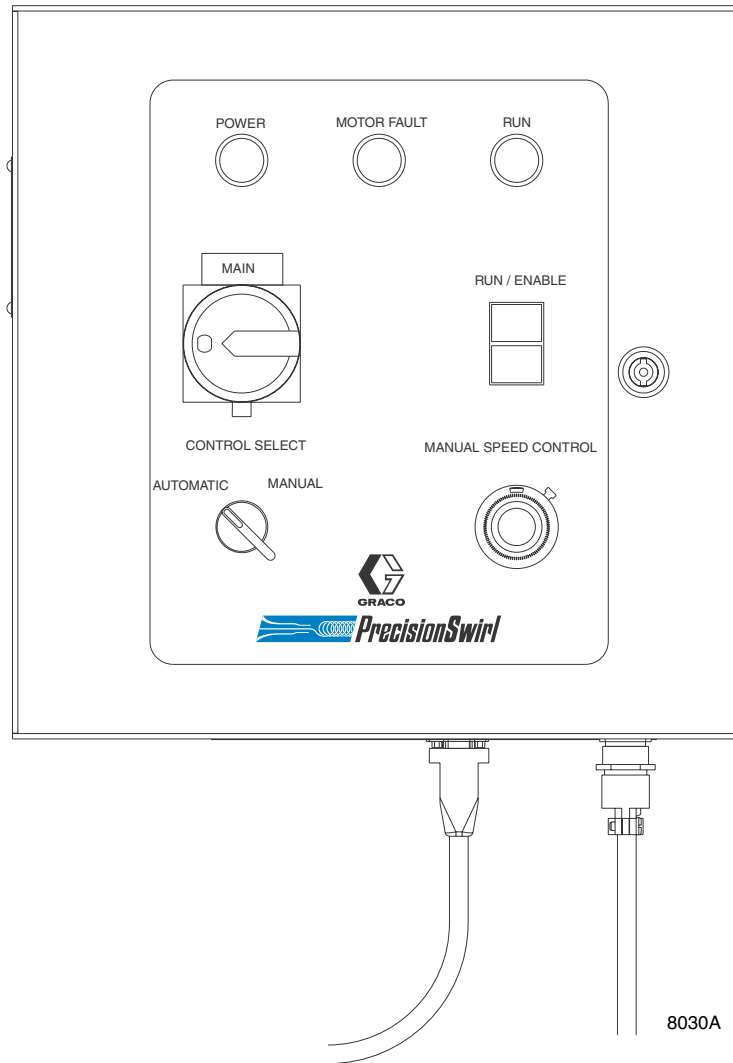

FIG. 12
Table 1 describes the controls on the PrecisionSwirl control assembly. See FIG. 12 for an illustration of the controls and indicators.
Table 2 describes the indicators on the PrecisionSwirl control assembly. See FIG. 12 for an illustration of the controls and indicators.
1. Make sure the POWER indicator, shown in FIG. 12, is lit at the control assembly. If it is not, turn the MAIN power switch to the ON position, turning on power to the PrecisionSwirl control assembly circuitry.
3. Press the RUN/ENABLE (black) button. Make sure the green RUN indicator, shown in FIG. 12, is lit at the control assembly.
3. Make sure the green RUN indicator, shown in FIG. 12, is off at the control assembly.
1. Make sure the POWER indicator, in FIG. 12, is lit at the control assembly. If it is not, turn the MAIN power switch to the ON position, turning on power to the PrecisionSwirl control assembly circuitry.
2. Make sure the green RUN indicator, shown in FIG. 12, is off at the control assembly.
Adjust motor speed by rotating the MANUAL SPEED CONTROL knob on the control box. See FIG. 12.
<p>To reduce the risk of serious injury whenever you are instructed to relieve pressure, always follow the Pressure Relief Procedure (see manual 309043).</p> <p>To reduce the risk of serious injury whenever you are instructed to remove, change, check, clean, or handle the nozzle in any manner, always disconnect the motor control cable from the control assembly (see FIG. 8 on page 17), or place the control assembly in the MANUAL mode of operation using the CONTROL SELECT switch. (See FIG. 12 on page 22.)</p>